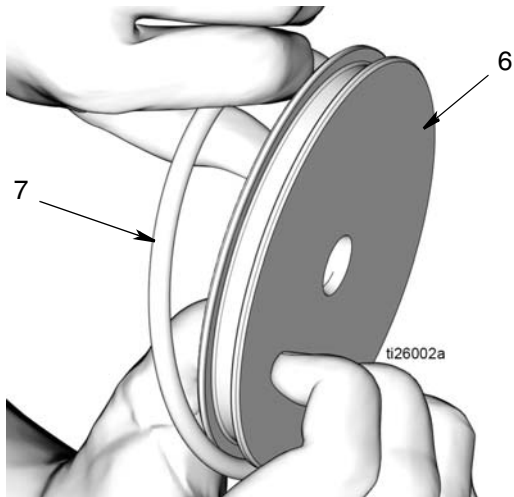

FIG. 24
- d. Remove o-ring (7) from piston (6) (FIG. 24).